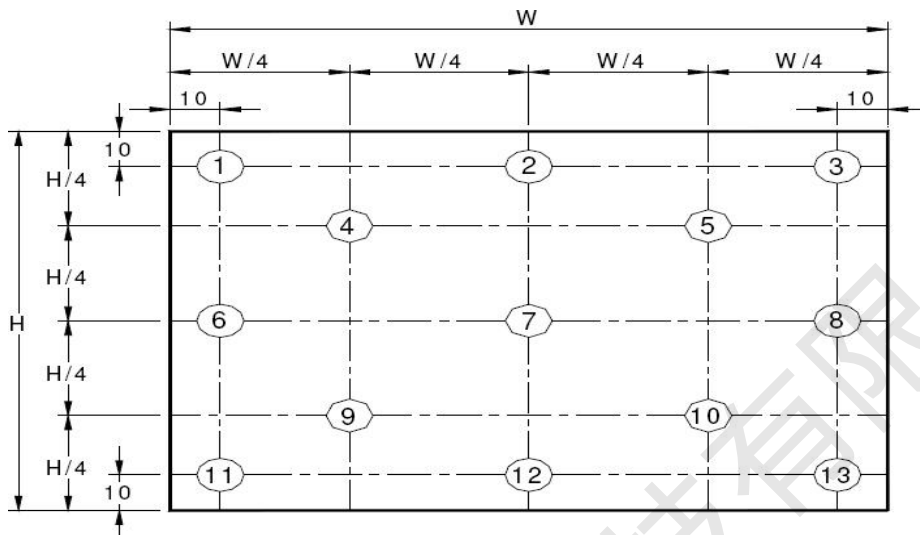

Figure 9. Uniformity Measurement Locations (13 points)
4. The White luminance uniformity on LCD surface is then expressed as : $\Delta Y = \text{Minimum Luminance of 9(or 13) points} / \text{Maximum Luminance of 9(or 13) points}$. (see Figure 8 and Figure 9).
The White luminance uniformity on LCD surface is then expressed as : $\Delta Y5$ = Minimum Luminance of five points / Maximum Luminance of five points (see Figure 8) , $\Delta Y13$ = Minimum Luminance of 13 points /Maximum Luminance of 13 points (see Figure 9).